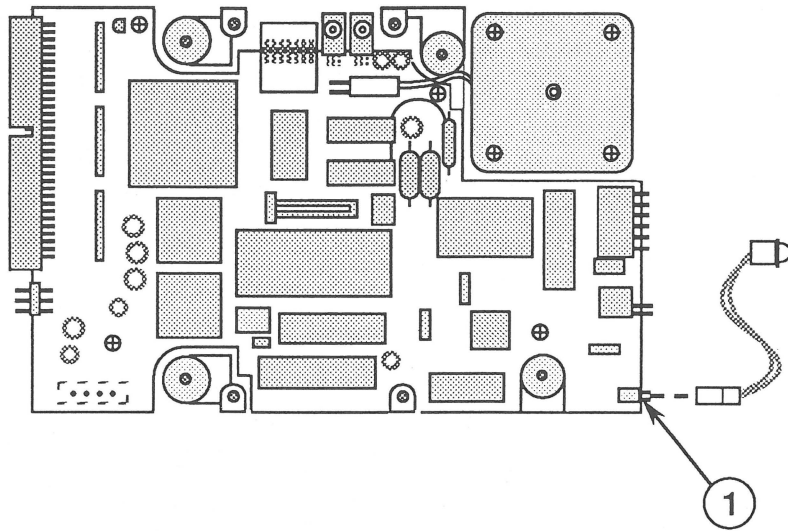

FIGURE 9
6. Position the customer's mounting frame over the bottom (board side) of the hard disk, and connect the LED cable from the customer's frame to the LED connector on the controller board (Figure 9, #1). Be sure the tab on the cable connector is pointing up and the wires are pointing down.